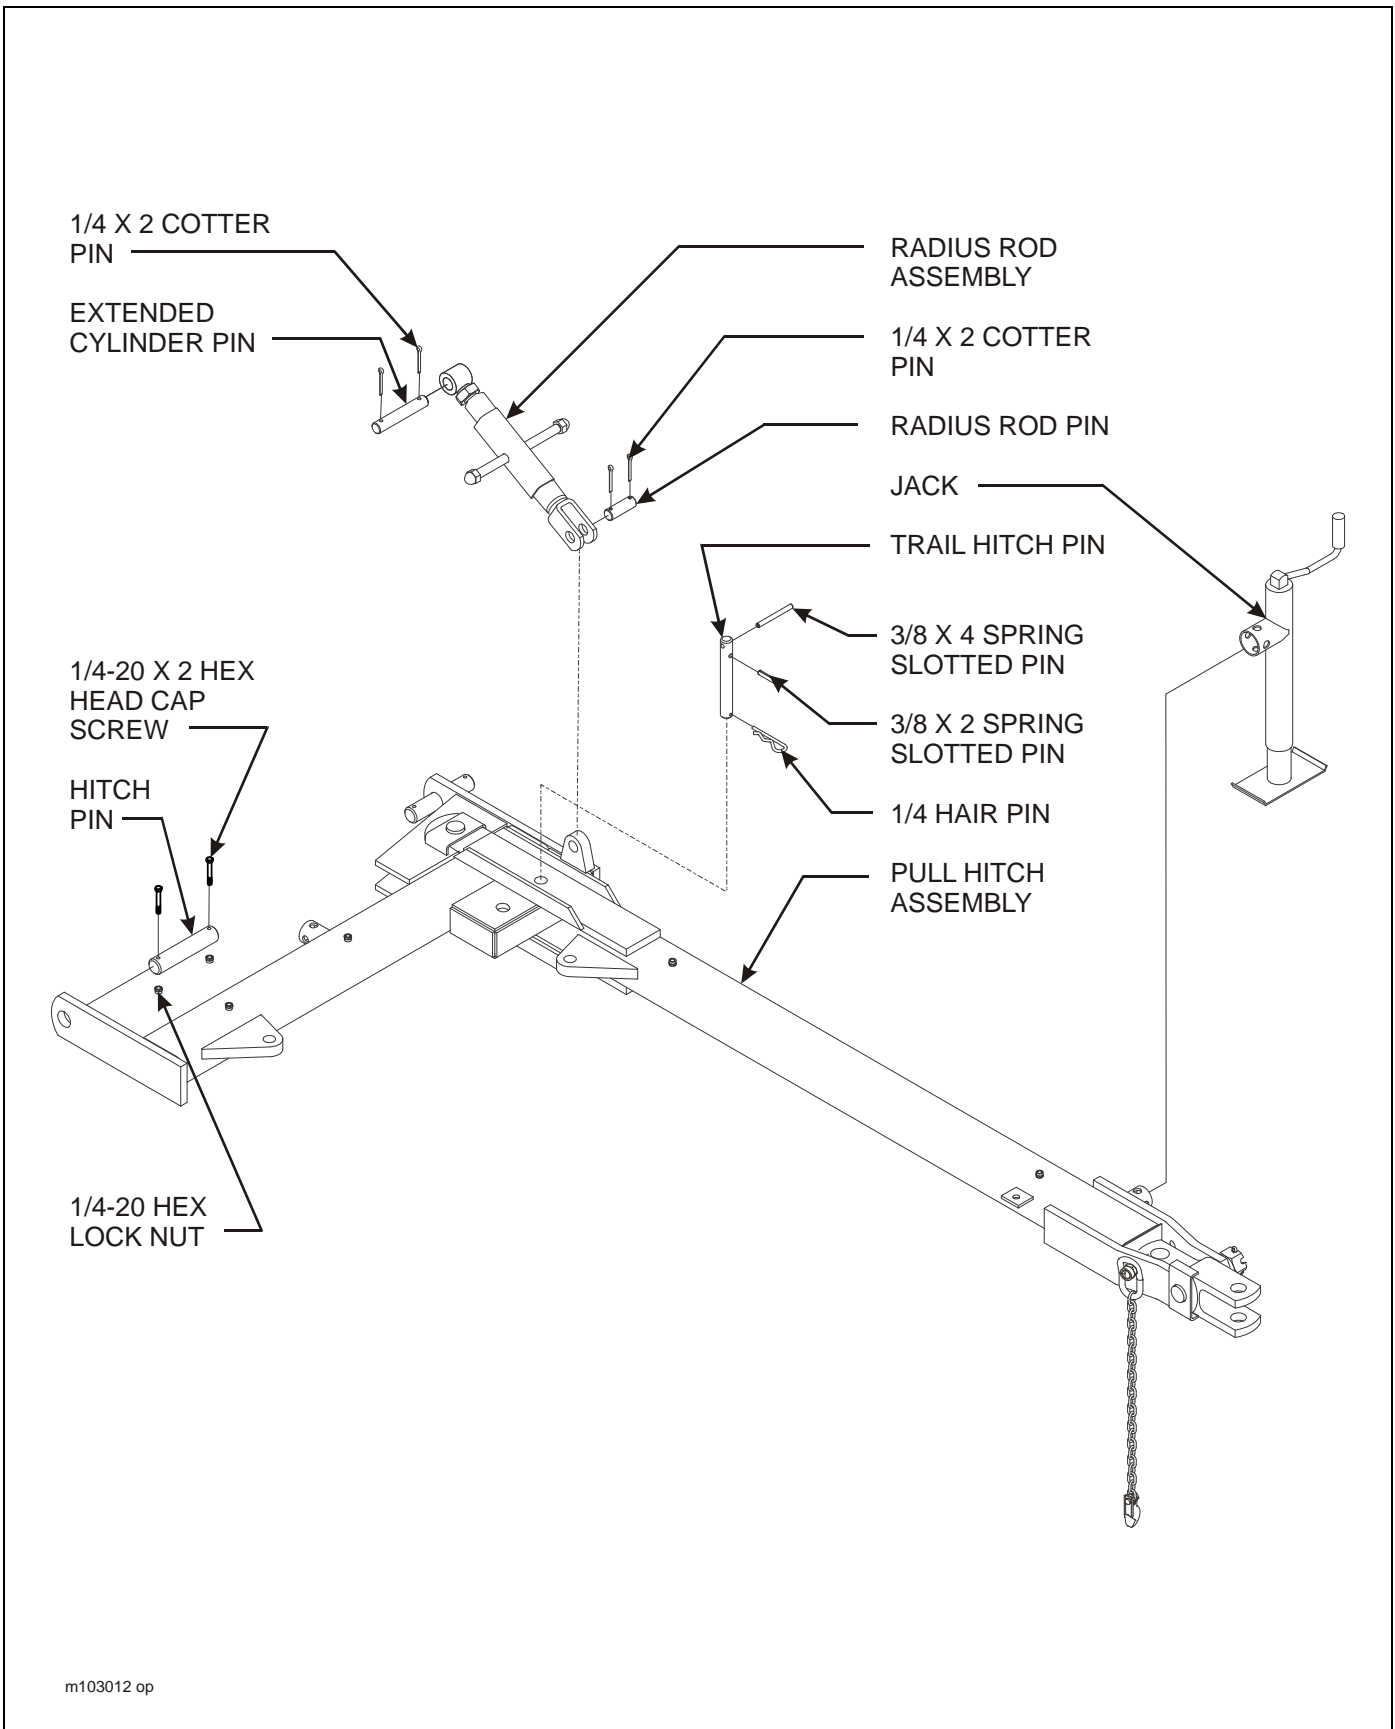

Figure 3-15: Pull Hitch Installation - 15' Fold Model
1. Install pull hitch assembly to frame using hitch pins and 1/4 x 2-1/2 cotter pins **(See Figure 3-15.)**